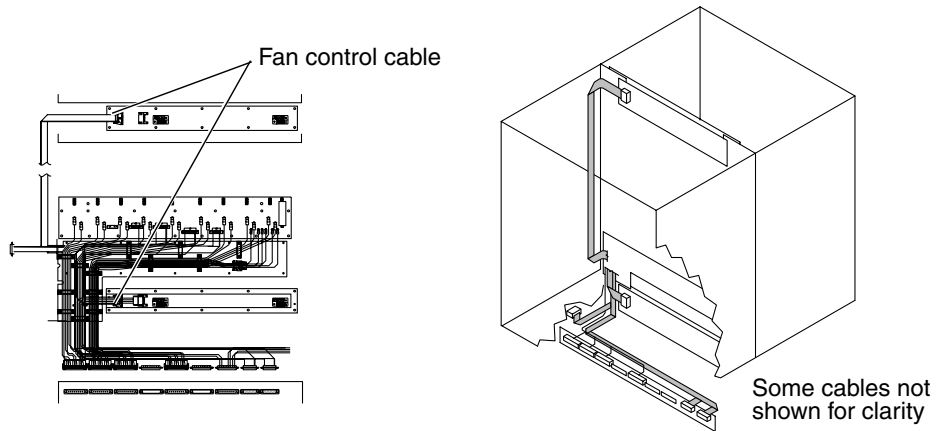

FIGURE 16-12 Internal Cable Harness Set
4. **Remove the twenty-two (22) M4x30 panhead screws retaining the air plenum cover, and remove both the plenum cover and the honeycomb EMI filter panel from the front and rear of the system.**
5. **Reach inside the system, below the fan trays, and release the four (two (2) per connector) male jackscrews holding the 48 VDC power cable assemblies to the 48 VDC power cables and power shelf I²C cables.**
6. **Using a 3/16 inch nut driver, carefully remove the four (4) female jack screws (two (2) per connector, three (3) on the front and three (3) on the rear) holding the Internal Harness Set connectors to the horizontal connector bracket.**
7. **Remove the sixteen (16) M4x6 panhead screws (eight (8) per cover), on the front and rear of the system, holding the vertical cable wireway covers and remove the two (2) upper cable clamps (each with two (2) locknuts (one (1) per side) from the front and rear of the system.**
8. **Remove the thirty-eight (38) (nineteen (19) per side) M4x6 panhead screws retaining the black plastic cable cover attached to the center bulkhead on the front and rear of the system.**
9. **Reach through the upper and lower card guide assembly and remove the grey colored connectors attaching the I²C fan cable to the four (4) fan backplanes (FIGURE 16-12).**
10. **Disconnect all forty-eight (48) discrete screw lugs and ten (10) ribbon cable connectors from the power centerplane at the front and rear of the system.**